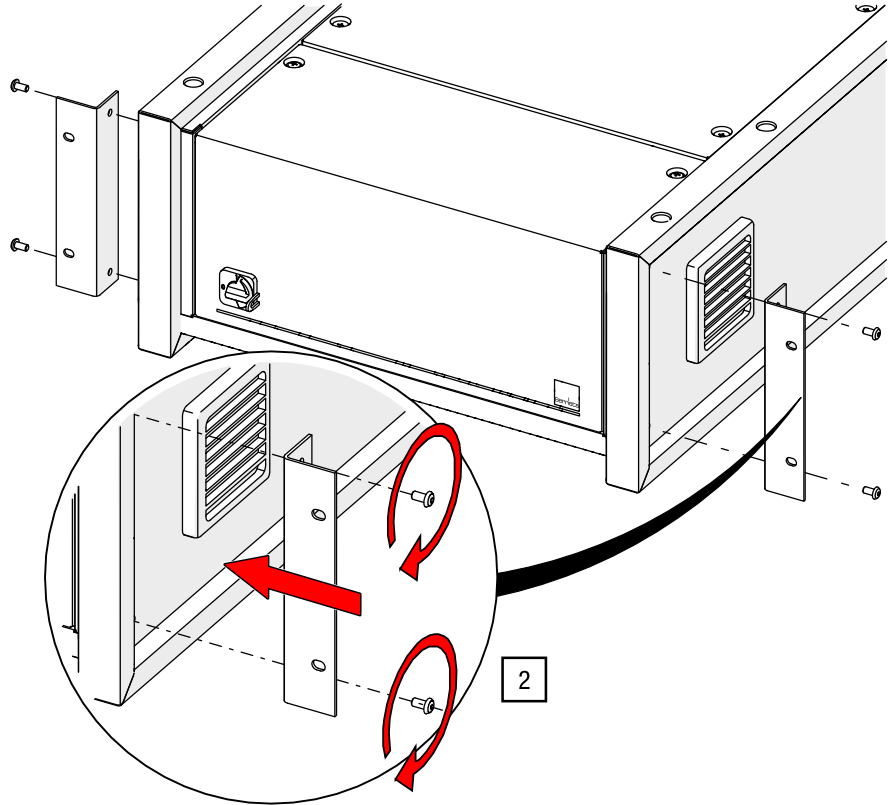

Fig. 21: Screw on the rack mounting bracket (control unit model may vary)
2. Screw the mounting brackets to both sides of the G-FRAME control unit using the hexagon socket screws (see Fig. 21).